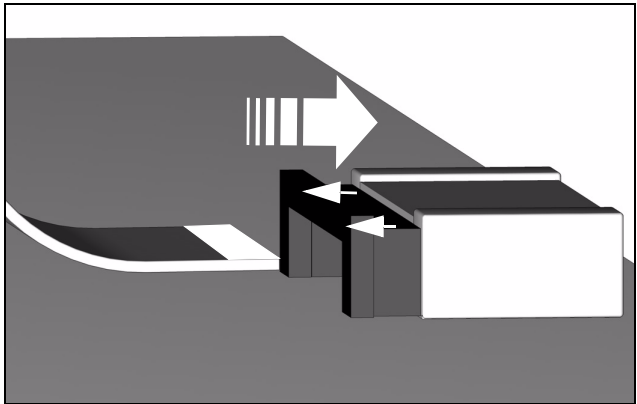
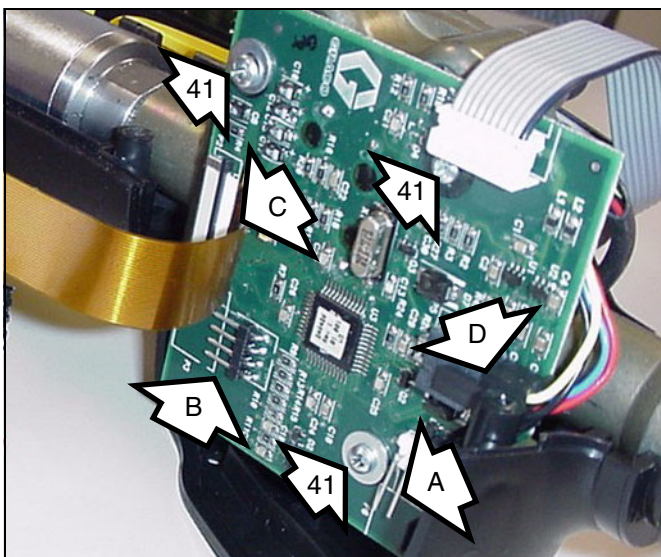
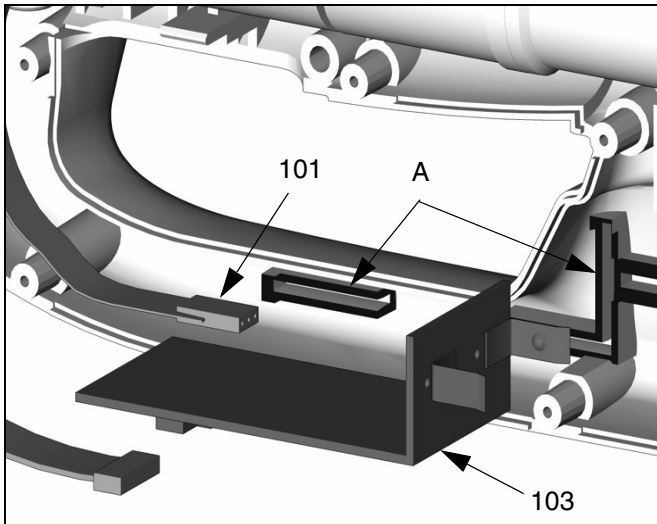

FIG. 44
FIG. 43
FIG. 46
8. Place the new right cover (18) along side of the meter.
9. Remove the trigger assembly (13, 14, 22, 23, 36, & 37) from the old cover (18) and set aside.
10. Remove the meter housing from the old right cover (18).
11. Disconnect the cables/wires (A, B, C, & D) that connect the bezel (31) to the circuit board (112) and the valve housing to the circuit board. See FIG. 43.
12. Remove the three screws (41) holding the PC Board (112) to the meter housing. See FIG. 43. Note that there is a washer (44) on each screw (41) between the board and the meter housing boss.
13. Remove the RF Board (103) from the cover half and disconnect the PSM switch cable (H) from the RF board (103). Set the old electronics (112, 103) aside. See FIG. 44 and FIG. 46.
14. Connect the new circuit board (112) to the valve housing using three screws (41). See FIG. 43. Be sure to install a washer (44) on each screw (41) between the PC Board and the meter housing boss.
15. Connect the cables/wires (A, B, C, & D) that connect the bezel (31) and the valve housing to the circuit board (112). See FIG. 43 and FIG. 44.
When reconnecting cable C to the circuit board (112), ensure that the cable is positioned with the white tab facing up and that the cable is straight before pushing in (closing) the clasp. See FIG. 44.
17. Plug connector end of the new PSM switch (101) into the RF Board (103). See FIG. 46.
18. Insert the RF Board (103) into the meter cover (18). Make sure that the RF board (103) fits securely into the two slots (A). See FIG. 46.